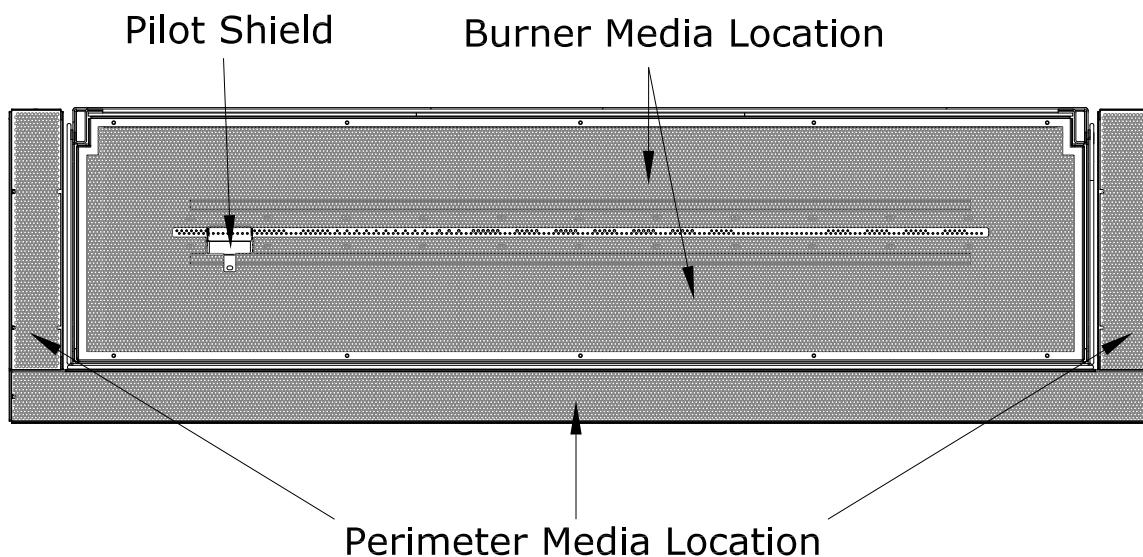

Figure 7.10 - Crushed Media Location
**IMPORTANT:** It is required that no crushed media blocks the pilot flame from igniting the burner. A blocked pilot may cause a delayed ignition. Figure 7.10 shows an arrow on the left that is pointing to the pilot shield around the pilot. Do not place media inside the media guard to cover or block the pilot.
**IMPORTANT:** Inspect and ensure the lighting of the main burner occurs within (4) seconds of the main gas valve opening.